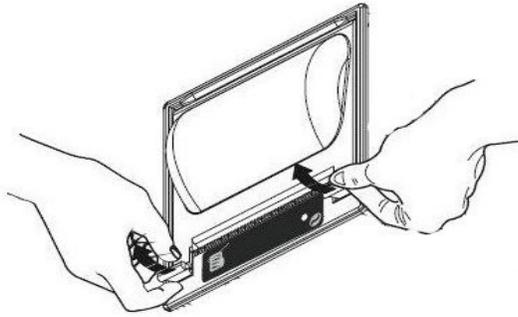

Figure 7-3 – Changing the paper roll - Step 1
1. Open the printer cover, Fig. 7-3